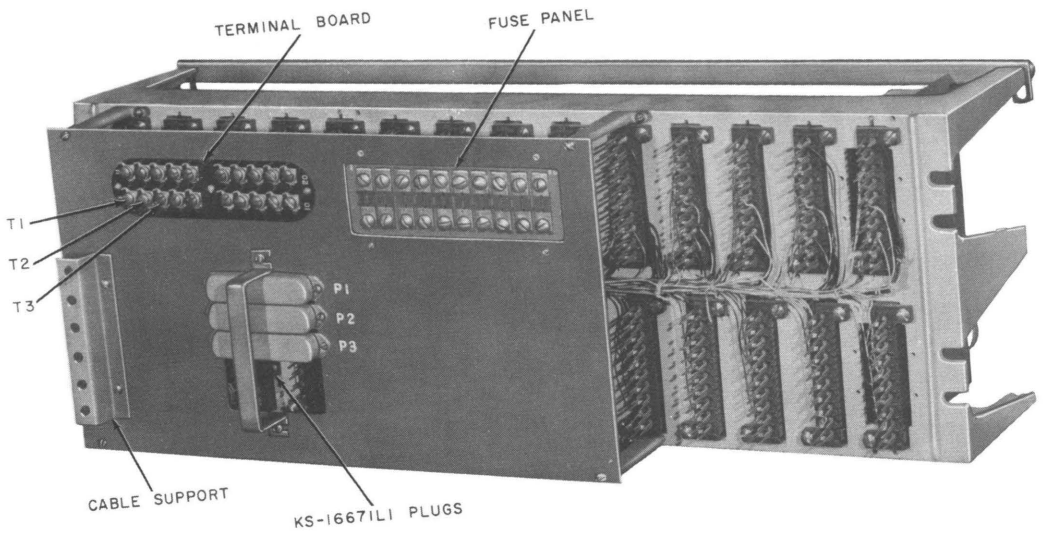

Fig. 3—607A Panel-Rear View
3.02 Electrical connection is made to the 607A panel through A25B connector cables to three Amphenol plugs (P1, P2, and P3, Fig. 3).
3.05 Connect power supply to terminals on rear of 607A panel as shown in Table D and Fig. 3.
3.10 When overvoltage protection is required, the KS-20944 protector must be mounted externally and wired to the power supply terminals of the 607A panel (Fig. 3).